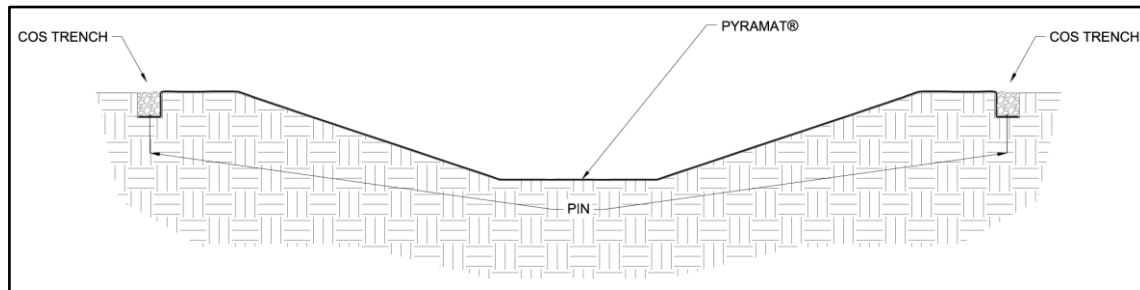

Figure 16: Top of Bank (COS) Trenches Complete
- Starting with the downstream end of the site select one of the COS trenches to begin the *PYRAMAT LAYDOWN* process. To ensure proper anchoring of the overlapped areas the proceeding roll width must be laid out before the current roll width can be anchored with exception to the final roll width at the TC trench. For straight sections of a channel, PYRAMAT panel lengths should be long enough to construct both COS trenches while also covering the surface of the channel being armored. (Figure 16) Panel edges should rest perpendicular to the channel center line. For best results, panels of PYRAMAT should be continuous and free from seams or roll end overlaps that are parallel to the centerline of the channel. Panel edge overlapping should follow a pattern of placing each proceeding panel's edge ovetop the previous panel edge, shingling the panels in the direction of the water flow.
11. Secure PYRAMAT with pins in the opposite COS trench. Suggested placement of pins for the opposite COS trench is along the bottom of the trench on 12 in (300 mm) centers (Figure 16).
12. Backfill and compact the opposite COS trench in the location of the first PYRAMAT panel only (Figure 16).